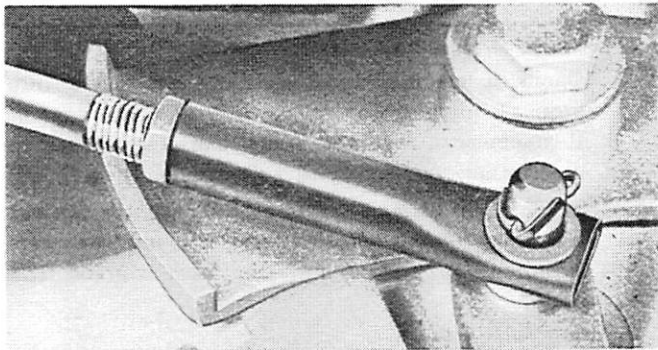

Figure 6. Shift Shaft Adjusting Nut
2. Loosen shift shaft adjusting nut on shift control linkage in bottom cowl. (Figure 6)